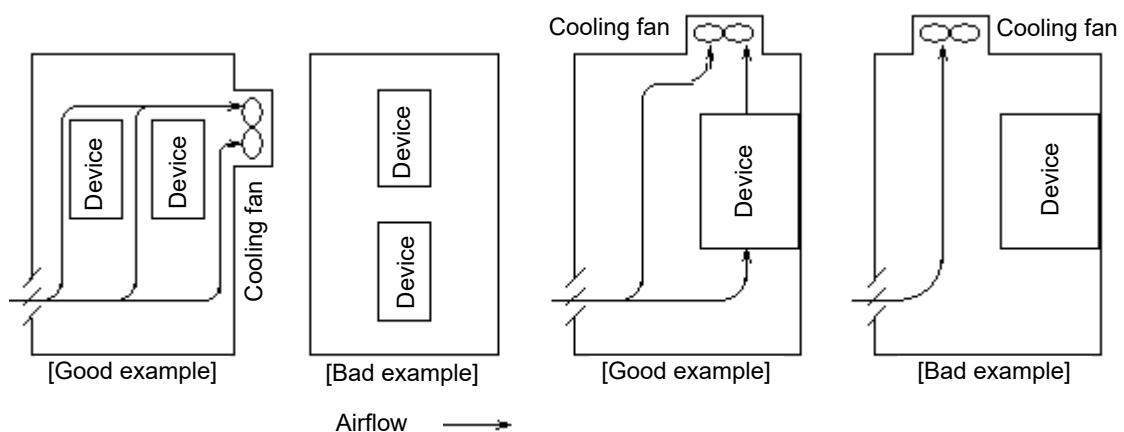

Figure 2-1 Alignment example when storing plural devices
- (1) For information about the ambient conditions of the device, refer to "13-1-2 General specifications".
- (2) The device lifetime has a close relation with the temperature in use. A use under the high temperature and high humidity environment may shorten the device lifetime. Generally, it is said that an increase of 10°C in temperature can shorten the lifetime of equipment to half.
- (3) For the temperature inside the storage control panel, consider the surrounding temperature and the temperature increase due to a loss in this device and in the equipment inside the panel. Be sure to keep the surrounding temperature of the device within the permissible range. In general, the calorific value of this device due to loss is as listed below.
- (4) As the device is equipped with a fan to cool the radiator, secure an opening not to block airflow. When storing plural devices, align them so that ventilation does not influence each other. (Refer to Figure 2-1.)
- (5) If there are nearby heating elements and vibrating sources, prepare an appropriate construction against the influence.
- (6) Do not install the product in a place of high temperature and high humidity or in places where excessive dust particles, metal powder, and cloud of steam exist, and in an environment where corrosive gas exists.
- (7) If there is a noise generation source, reinforce the grounding treatment to avoid mixture of induction noises. Depending on the use conditions, a noise filter may be required. Conduct the noise protection measures, referring to "2-9 Noise protection".